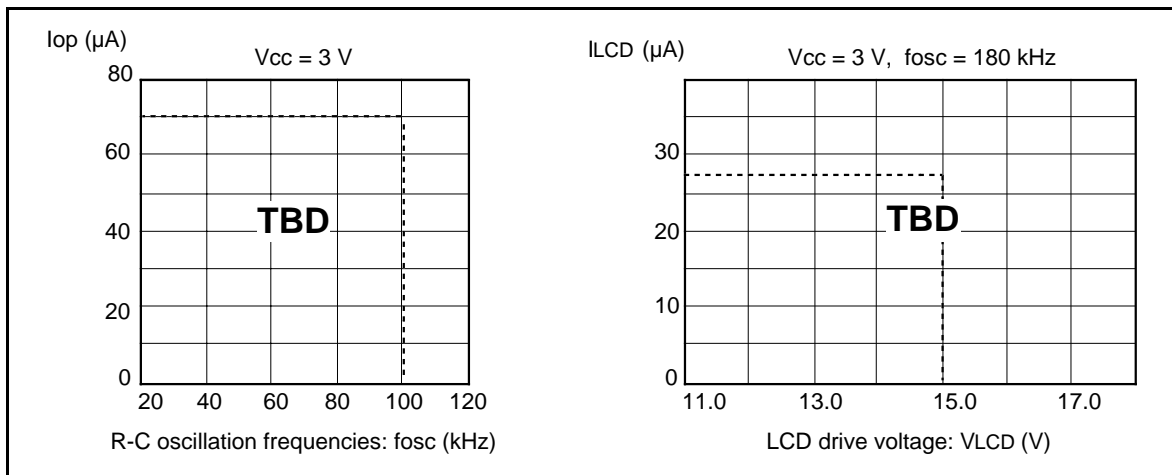

Figure 64 Relationship between the Operation Frequency and Current Consumption
7. The following shows the relationship between the operation frequency (fosc) and current consumption (Icc) (figure 64).